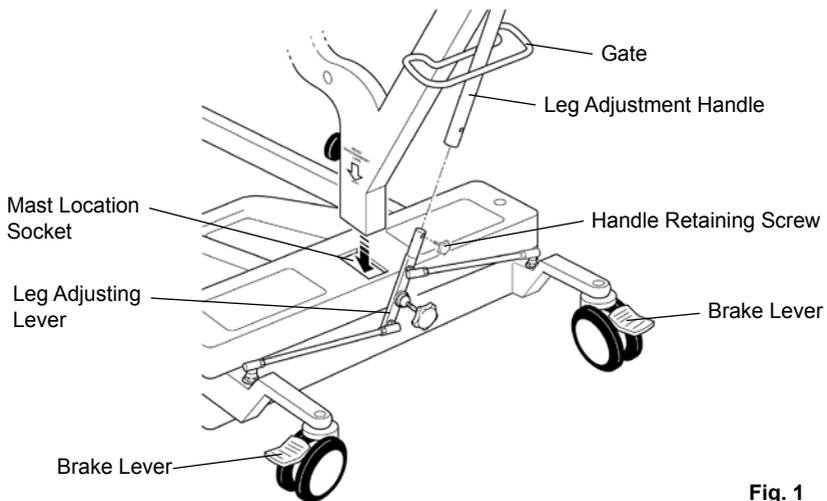

Fig. 1
2. Apply the rear castor brakes by pushing the brake levers (Fig. 1) downwards.
3. Fit the mast assembly to the chassis. The mast is located into the rectangular socket on the top of the chassis (Fig. 1).
4. Remove the screw from the leg adjusting lever located at the rear of the chassis. Fit the leg adjusting handle through the gate on the mast and push the open end over the leg adjusting lever. The handle is retained by a screw through the clearance hole in the handle into a threaded hole in the lever. Insert screw and fully tighten (Fig. 1).